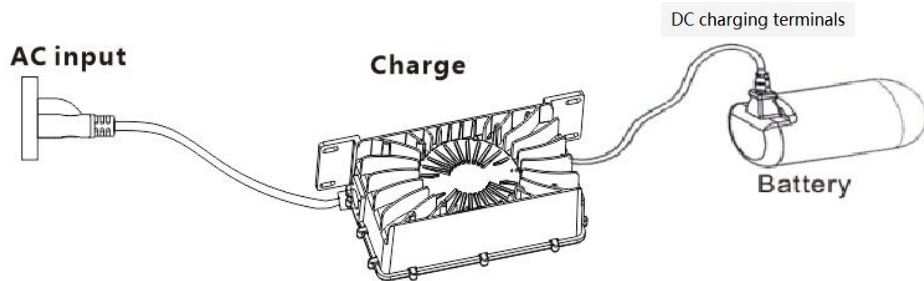

Fig2
- Before charging, please connect the DC terminal to battery firstly, and then connect the AC terminal(See Fig2).
- After charging complete, unplug the AC terminal firstly, and then unplug the DC terminal(See Fig2).